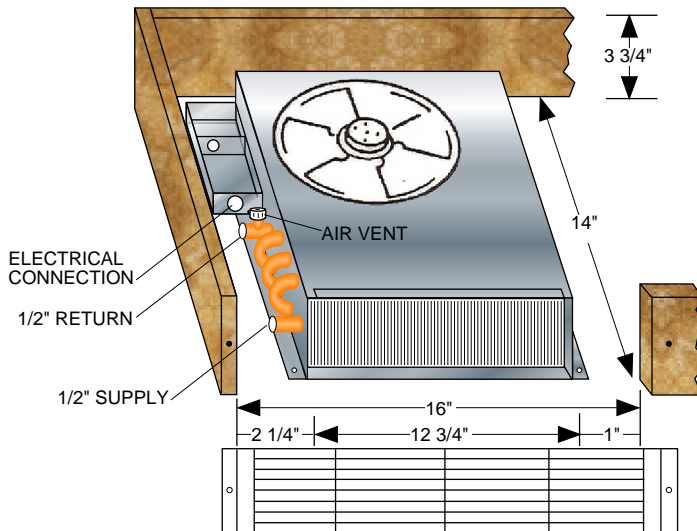

FIG. 1 UNDER-COUNTER INSTALLATION
- Cut an access panel at least 13 1/2" x 16" under the bottom shelf. Starting at the right edge of the selected location, cut an opening in the toe-space riser at least 3 3/4" x 16" (SEE FIG. 1)